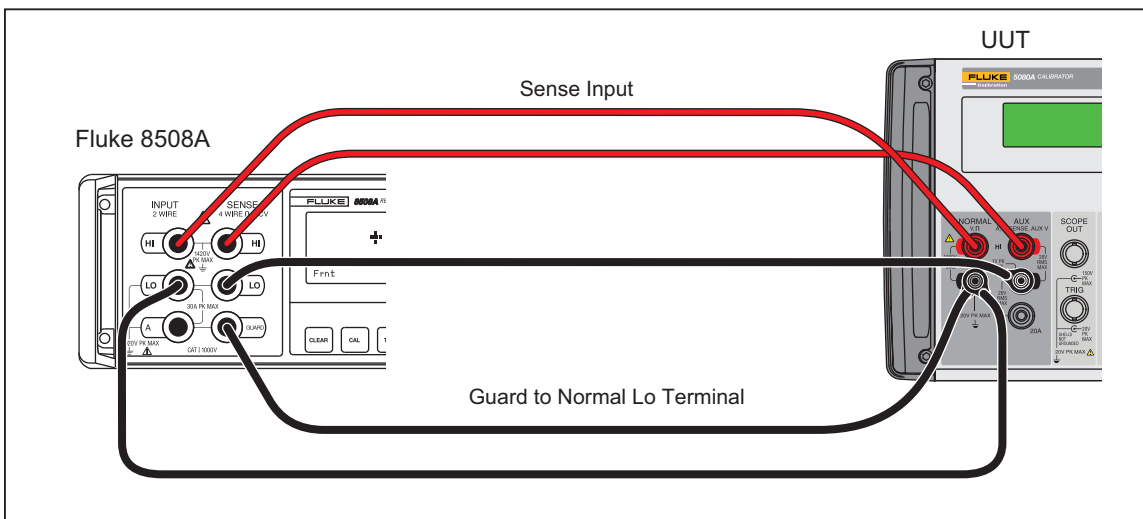

Figure 12. Connections for Calibrating 4-Wire Resistance
3. Follow the prompt on the Control Display to connect the DMM to the UUT for 4-wire ohms measurement as shown in Figure 12.